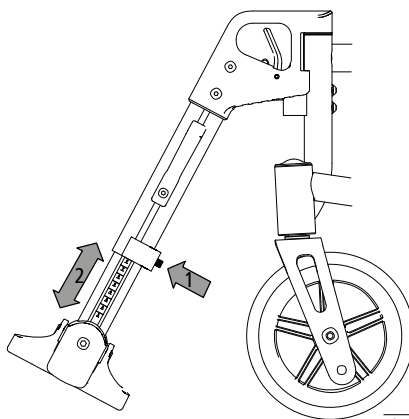

Fig. 6
1. To adjust, loosen the screw connection on the rear of the leg rest (1, Fig. 6) until the lower part of the legrest can be telescoped.
2. Move the foot plate into a position that is comfortable for you (2, Fig. 6) and tightened the screw connection again. In order to ensure that both sides are at the same height, indexing has been added to the outside for better orientation.